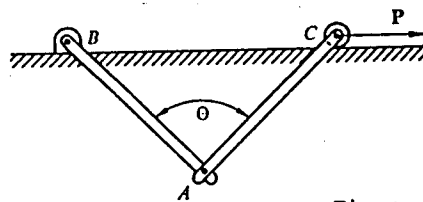

Fig.6
6. (10%) Uniform bars AB and AC shown in Fig.6, each of weight W and length L , are connected by a smooth pin at A. Bar AB is attached to a frictionless pin at B, while bar AC is pinned to a light frictionless roller at C. The system is in equilibrium when a horizontal force P is applied at C. Find the angle θ by the method of virtual work.